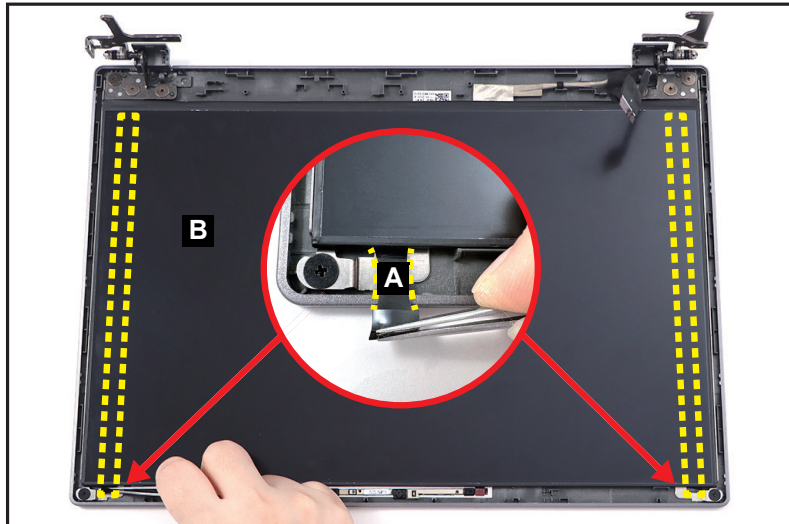

Figure 1-46. LCD Panel Removal
2. Pry slightly to access the double-sided mounting tape (A) underneath the LCD panel (B). Then pull to detach the double-sided mounting tape from the LCD cover. Repeat the same procedure to remove the double-sided mounting tape on another side of the LCD panel (Figure 1-46).